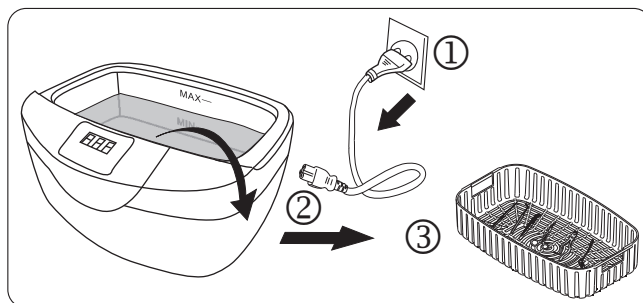

Fig.16
- 8►At the end of the cycle the display will show 000 and the cavitation process will stop automatically. Unplug the equipment and open the lid. (Fig. 16).